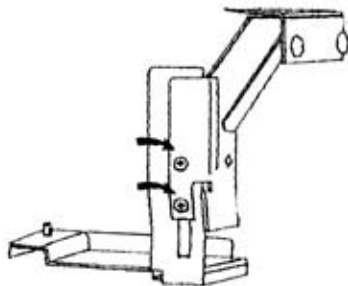

Figure 2:
The bracket is assembled in its most compact configuration. If the flash rotating arm (5) interferes when you attach your camera to the bracket, the upright arm must be raised to its highest position. Locate and slightly loosen the two Phillips-head screws on the upright arm (2) of the Stroboflip (Figure 2). Raise the arm to its highest position and retighten the screws. Do this before installing a flash.